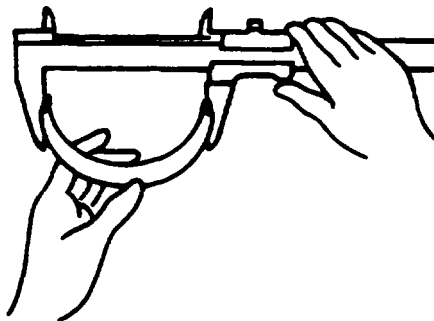

FIGURE 3-86. Bearing Spread Measurement
- d. Use a vernier caliper to measure spread, refer to FIGURE 3-86. The limit for bearing spread for crankshaft bearings is 2.93 in. (74.5 mm) and 2.22 in. (56.5 mm) for connecting rod bearing.